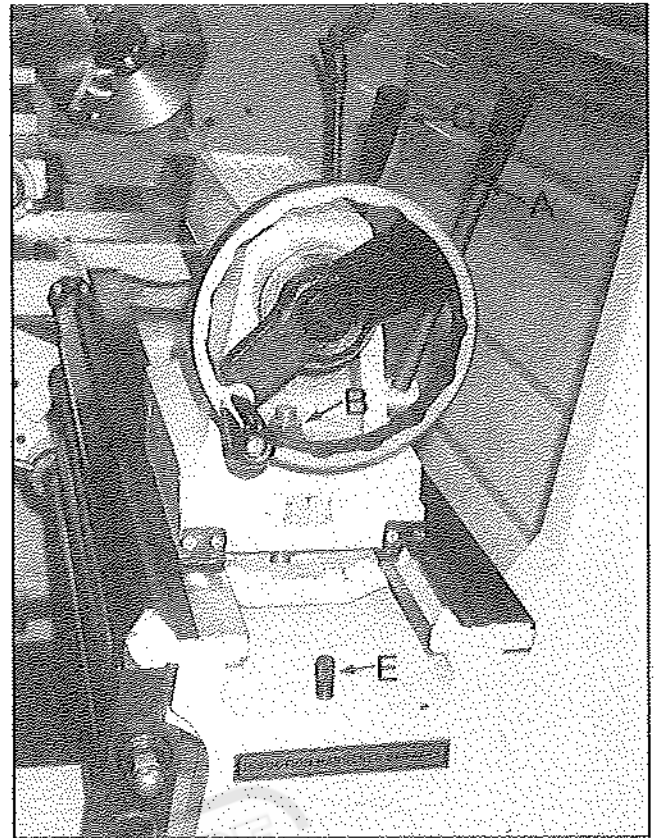

Fig.16
Can be freed for movement along the bed by unlocking the clamp lever (A). Additional clamping may be obtained by tightening the large nut (B) located in a recess below the handwheel. (Fig.16)